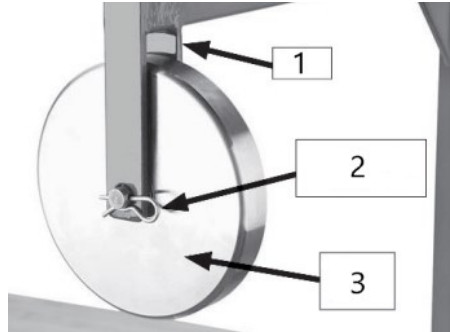

Fig. 8 – Installed upper cylinder
- Position the upper cylinder between the arms of the frame and put the upper clevis pin through the arm and cylinder, then secure the pin with the splint (Fig. 8).